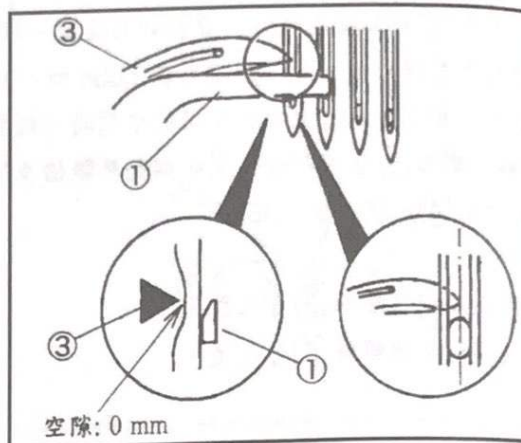

Fig.56
當下勾針左移到右時，檢查下勾針③有無碰到針的後面，看針有無左右移動。(Fig.56,57)
Check the looper tip touches the back of the needle and the does not swing to the right when the looper ③ moves from the left to the right while rotating the handwheel. (Fig.56,57)